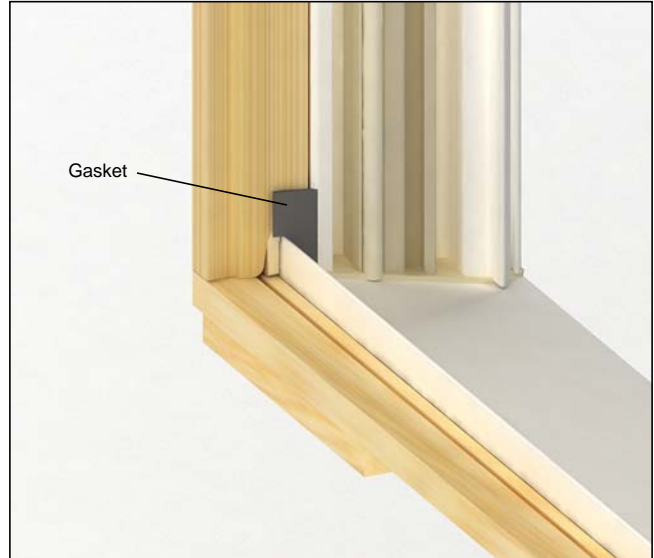

Figure 3
4. Place the HP end seals on the left and right jambs at the sill, butted up against the sill dam with the square cut out contour gasket aligning along and over the sill dam See figure 3.